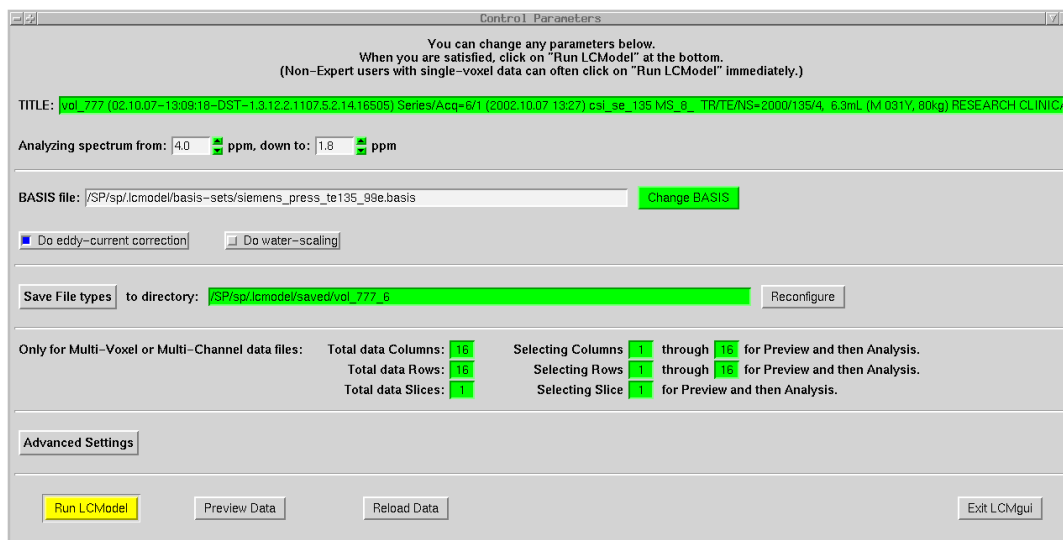

Figure 6.4: The Control Parameters Window
- Click on “Run LCModel” (Fig. 6.4 in Sec. 6.4).
After you click the “OK” button in the File Selector, the second of the two most important windows, the “Control Parameters” window (Fig. 6.4), appears. LCMgui remembers most of the settings from the previous session. Thus, Normal Users often can simply click the yellow “Run LCModel” button at the bottom to start the LCModel analysis. (Yellow is generally used to show you the usual path to take.)
In the second row in Fig. 6.4, the entries next to “**Analyzing spectrum from:**” define the Analysis Window, the ppm-range over which the spectrum will be analyzed (Sec. 3.4). You can change this range by clicking on the green up or down arrow next to the value. (Green usually indicates fields that you can click on or edit to make changes.)
In the third row in Fig. 6.4, the entry next to **BASIS file:** shows the pathname of the .BASIS file containing the model spectra that will be used to analyze your data. If the .BASIS files are installed as specified in Sec. 7.2.4, then LCMgui should automatically select the proper one, if it exists. Also LCMModel normally produces diagnostics if the .BASIS file does not match your data.
Users with Toshiba, Marconi/Picker data or GE Probe P-files can skip Sec. 6.3.3 since eddy-current correction (ECC) is done automatically. Other users only have to set this as default the first time for future analyses. In the fourth row in Fig. 6.4, a mouse-click switches the button for ECC between active (blue) and inactive (no ECC). (Blue usually indicates a button that is switched on.)
TITLE: This field at the top of Fig. 6.4 will also appear at the top of the One-Page Output. You can edit this field, e.g., to insert comments on location or pathology.
There are several other useful files that can be output and archived by LCModel. Clicking on “Save File types” in Fig. 6.4 produces a menu where you can select which types of output files will be archived. In addition to the .PS file (with the One-Page Output), the .TABLE file (with tables summarizing the results) should be selected.